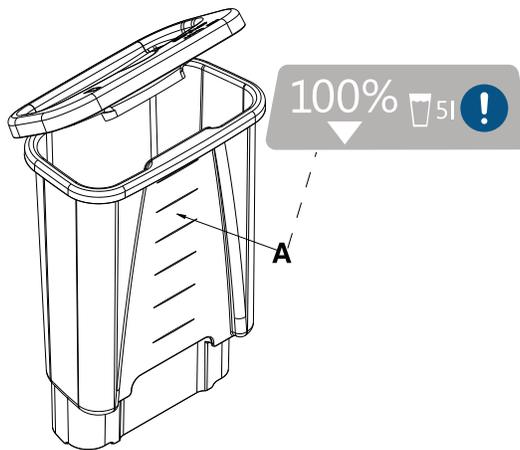

Figure 16: Reservoir fill lines
2. Fill the reservoir with five liters of sterile distilled water. Do not fill past the top fill line to avoid water overflow (Figure 16 on page 27).